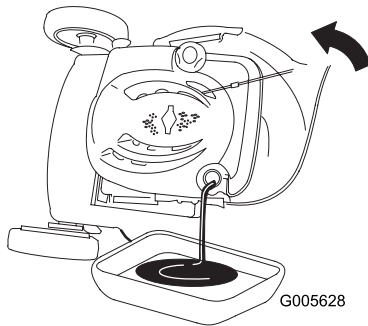

Figure 32
3. Tip the mower onto its side (with the air filter up) to drain the used oil out through the oil fill tube (Figure 32).